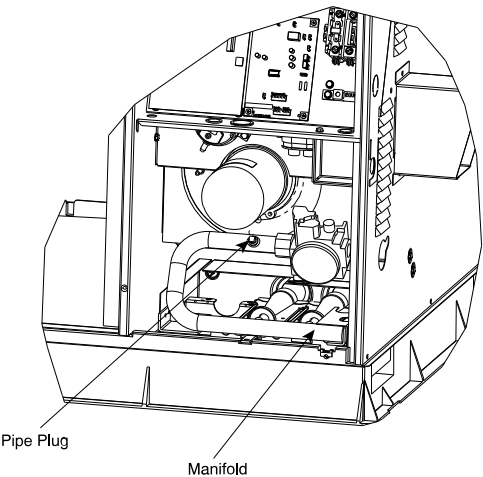

Fig. 14 – Single-Stage Burner Assembly
28. Remove the 1/8 in. pipe plug on the gas manifold and connect a pressure manometer (see Fig. 14).
32. Turn off unit, remove pressure manometer and replace the 1/8 in. pipe fitting on the gas manifold (see Fig. 14).